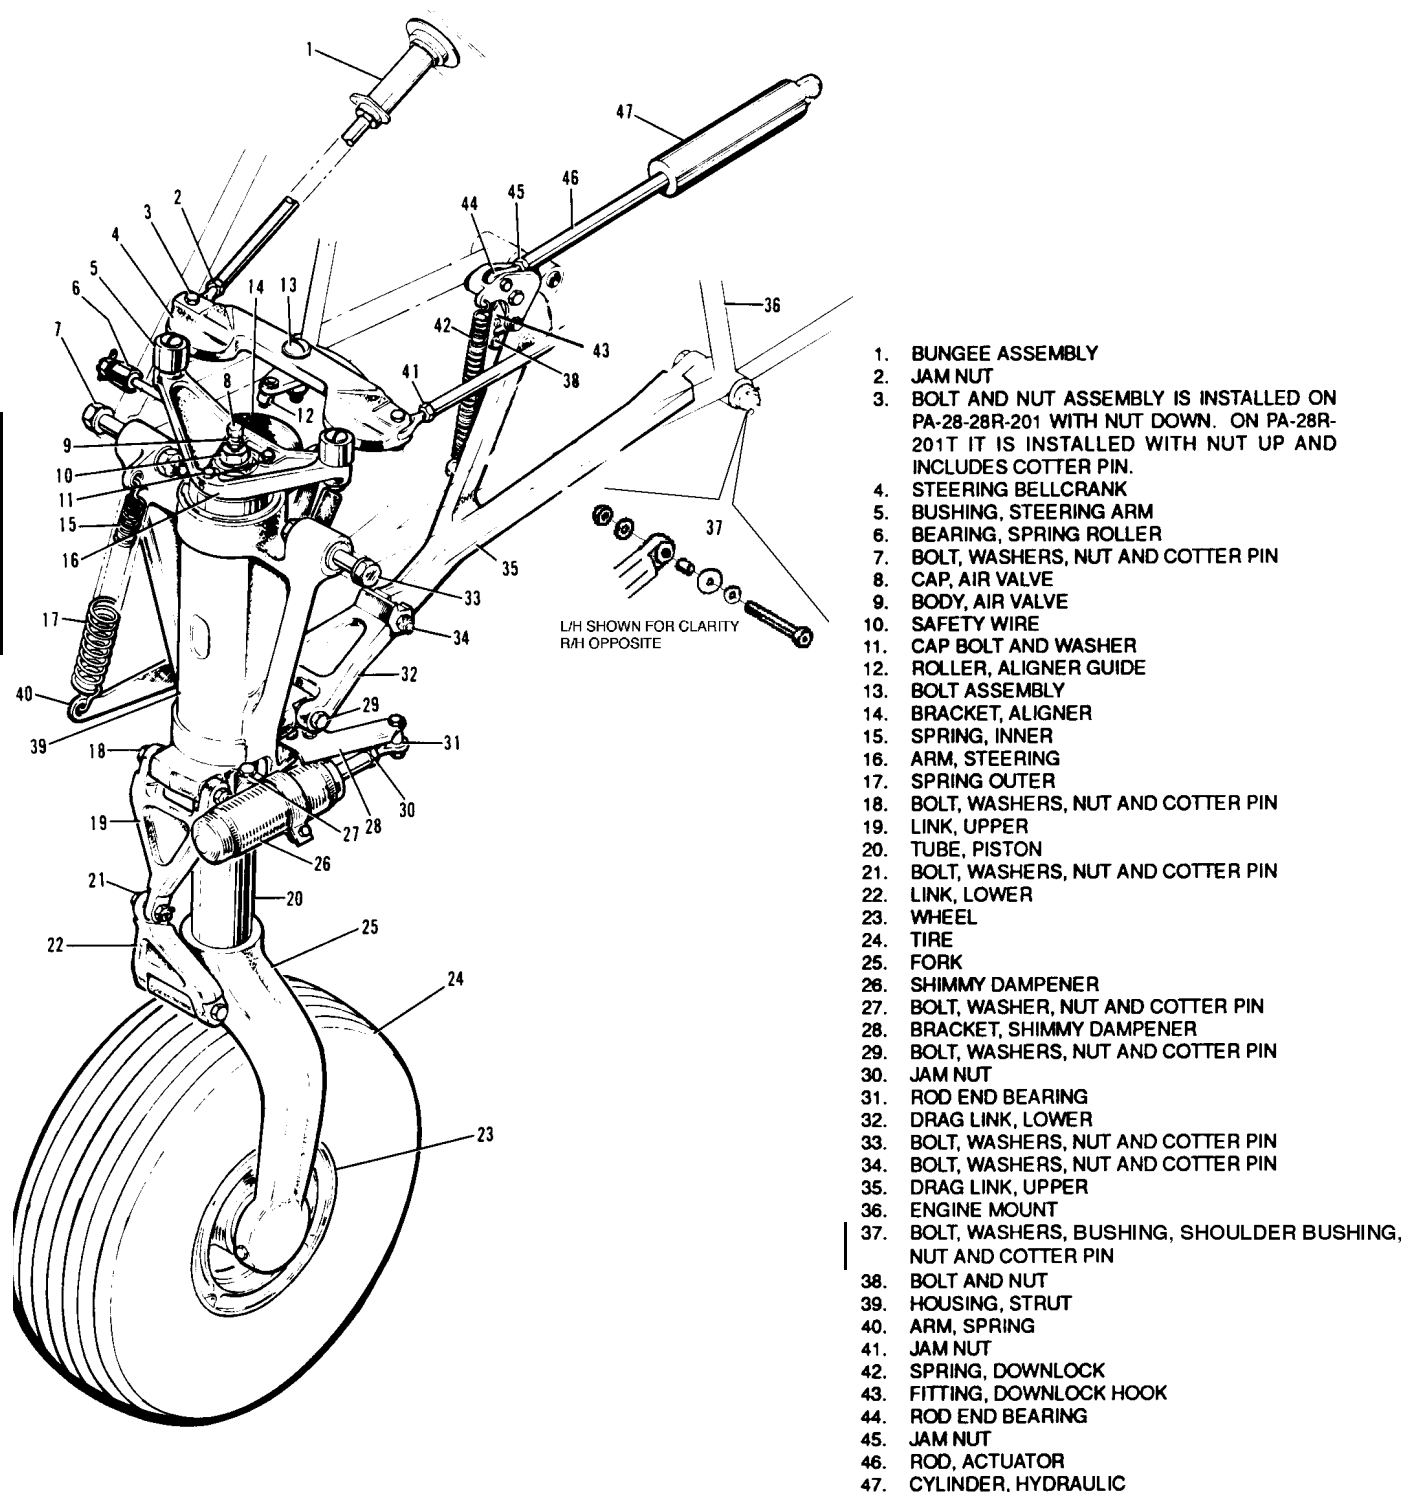

Figure 7-2. Nose Gear Installation
- g. Lubricate the inner wall of the cylinder (23) with hydraulic fluid. Carefully insert the piston tube assembly into the bottom of the cylinder, allowing the orifice tube to guide itself into the fork tube, until the snap ring (38) can be installed in the annular slot at the bottom of the cylinder. Install wiper strip (36), slide washer (37) into position and secure assembly with snap ring (38).
- h. At the top of the cylinder (23), tighten (torque) the orifice tube lock nut (16) to 500 (min.) 600 (max.) inch pounds.
- j. Ascertain that the upper and lower oleo housing bushings (20 and 22) are installed. Install the cylinder into the oleo housing, position spacer washer(s) (43) over the top of the cylinder and secure with snap ring (17). Install spacer washers as required to obtain .0 to .015 of an inch trust of the cylinder within the housing.
- k. At the top of the oleo housing, install on the cylinder the aligner guide bracket (12) and steering arm (11). Install cap bolts (1), tighten 20 to 25 inch pounds torque and safety with MS20995C40 wire (2).
**7-9. REMOVAL OF NOSE LANDING GEAR. (Refer to Figure 7-2.)**
- c. Disconnect the two gear tension springs (15 and 17) from the spring arm (53) that is attached to the right side of the strut housing (39).
- 1. Disconnect the rod end (44) of the hydraulic cylinder (47) from the downlock fitting (43) by removing nut and bolt that connects these two units.
- 2. Retract the gear and disconnect the gear downlock spring (42) from the upper drag link (35).
- 3. Remove the gear tension spring arm (40) from the right side of the oleo housing (39) and lower drag link (32) by removing the cotter pin, nut and washer from the bolt (29) that connects the drag link to the housing. Slide the arm and spacer washer from the bolt.
- 4. Remove the cotter pins, washers and nuts from the bolts that secure the upper drag link (35) to the engine mount (36).
**7-11. INSTALLATION OF NOSE LANDING GEAR. (Refer to Figure 7-2.)**
- a. Attach the steering bellcrank (4) with bushing to its mounting plate on the engine mount (36) securing with the bolt assembly (13). Align the steering bellcrank (4) and the steering arm bushings (5) by positioning the spacer washers as noted in removal. Connect the bungee assembly (1) to the bellcrank (4) and install bolt and nut assemblies (3). The adjustment, fore and aft of the bellcrank, may be made after the gear has been installed and rigged and adjusted.
- b. To install the gear housing assembly, position the gear so that the bolt attachment points on the housing (39), align with the attachment points on the engine mount (36). Install pivot bolts, washers and nuts (7 and 33). Tighten the nuts to a snug fit, yet allowing the gear to swing free, and safety.
- c. The drag links (32 and 35) and gear tension spring arm (40) may be installed by the following procedure:
- 3. Install nuts and washers on the upper link (35) attachment bolts. Tighten the nuts to allow the links to rotate freely and safely.
- 5. Install the gear tension spring arm (40) on the drag link bolt (29) on the right side of the gear oleo housing (39), secure and safety. A washer is installed on the bolt between the lower drag link and the arm.